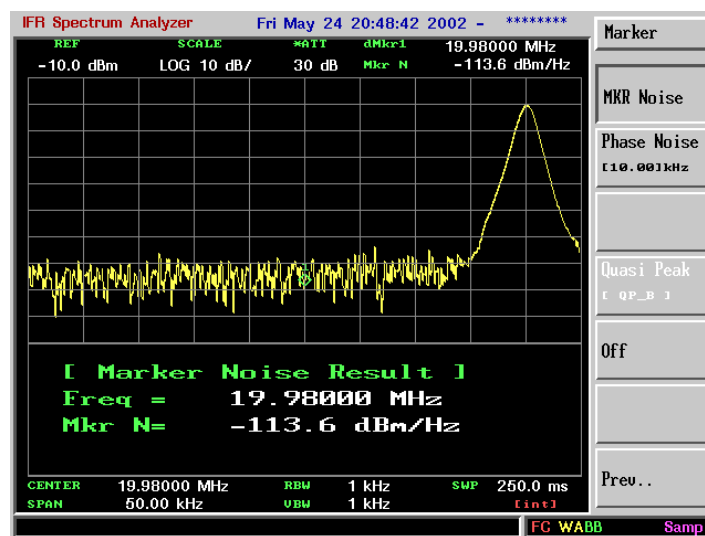

Figure 2-21. Activating the Noise Marker function
6. Activate the noise marker by pressing **MKR**, *More., Function., MKR Noise*. Note that the display detection has changed to sample, the marker floats between the maximum and the minimum of the noise. The marker readout is in dBm or dBm per bandwidth. See Figure 2-21. For noise power in a different bandwidth, add $10 \times \log(BW)$. For example, for noise power in a 1 kHz bandwidth, add $10 \times \log(1000)$ or 30dB to the noise marker value.